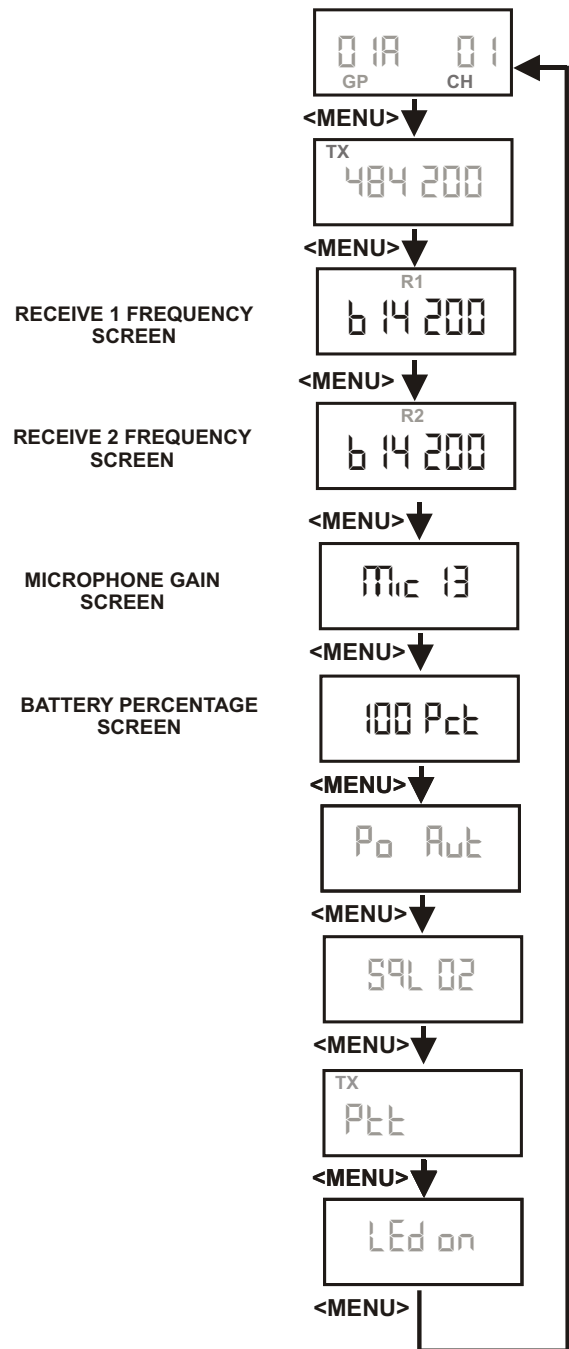

Figure 7-6
1. Set the unit to the desired user defined group and channels. See Groups and Channels Instructions. The menu structure at the right (Figure 7-6) indicates how to get to the receive frequency screen.